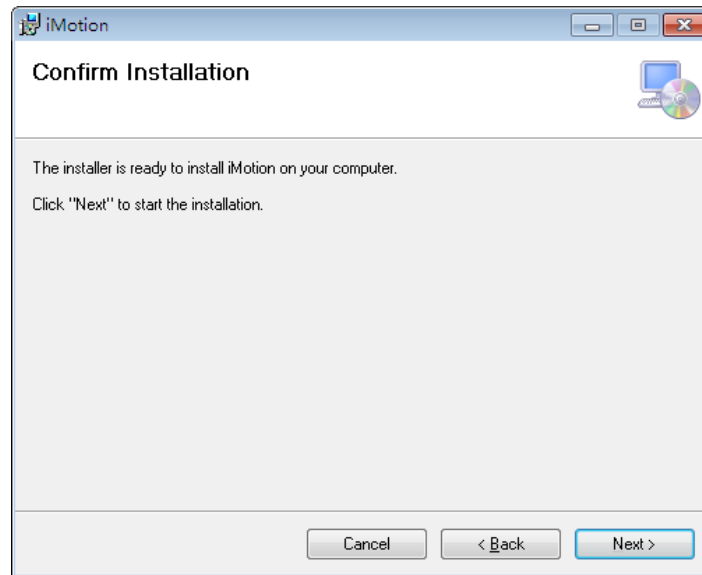

Fig. 1-4 Installation confirmation
5. A confirmation dialog box will appear. Click “Next” to continue, see Fig. 1-4.